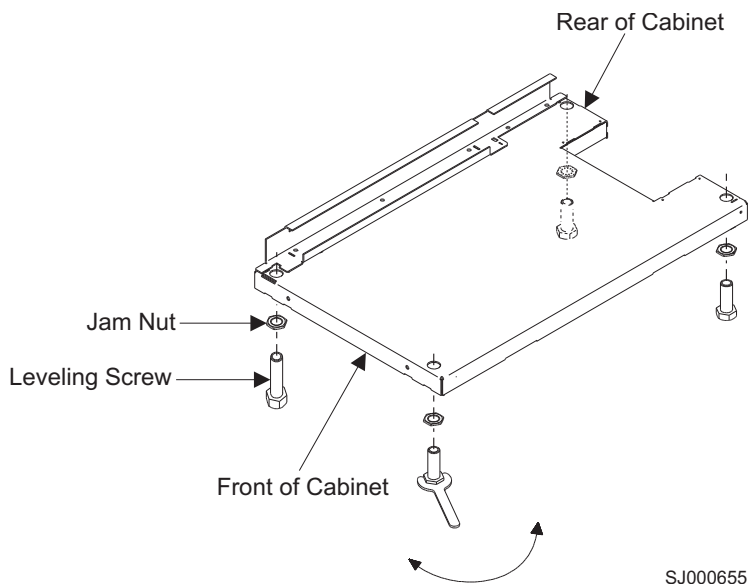

Figure 67. Leveling the rack
27. Adjust the leveling feet downward, as needed, until the rack is level. See Figure 67. When the rack is level, tighten the jam nuts against the base by turning the jam nut clockwise (toward the bottom of the rack). Torque the four bolts to 54–67 nm (40–50 ft-lbs).